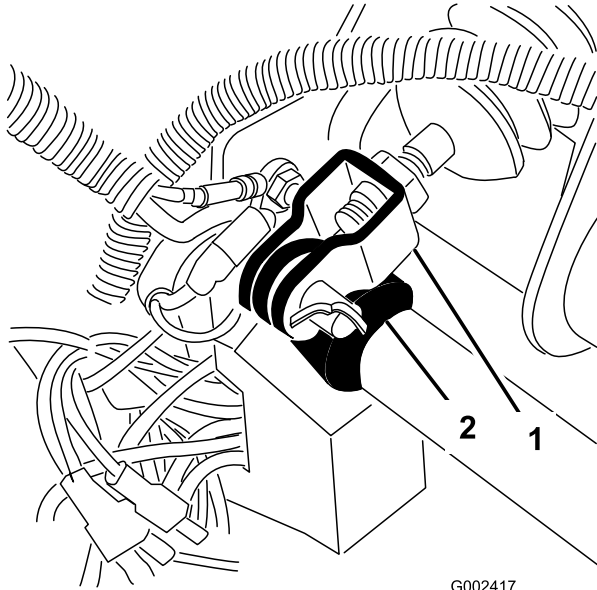

Figure 49
1. Remove cotter pin and clevis pin securing master cylinder yoke to brake pedal pivot (Figure 49).
3. Loosen jam nuts securing yoke to master cylinder shaft (Figure 49).